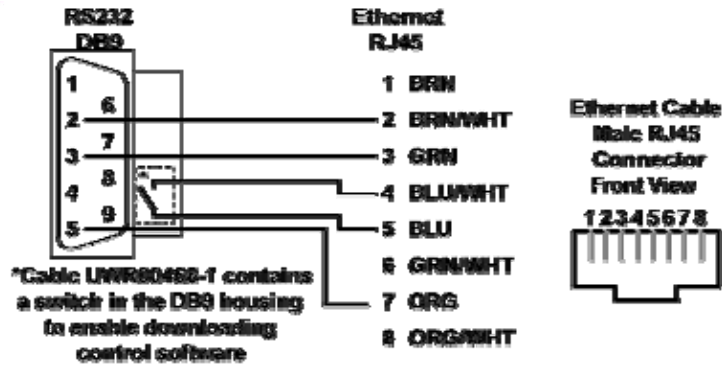

Figure 1.3 – RS232 Network Connection
- 5.2:** Connect the controller to the S+/S- and R+/R- terminals on the F7 drive's terminal block as shown in *Figure 1.3 – RS422/485 Connections*.